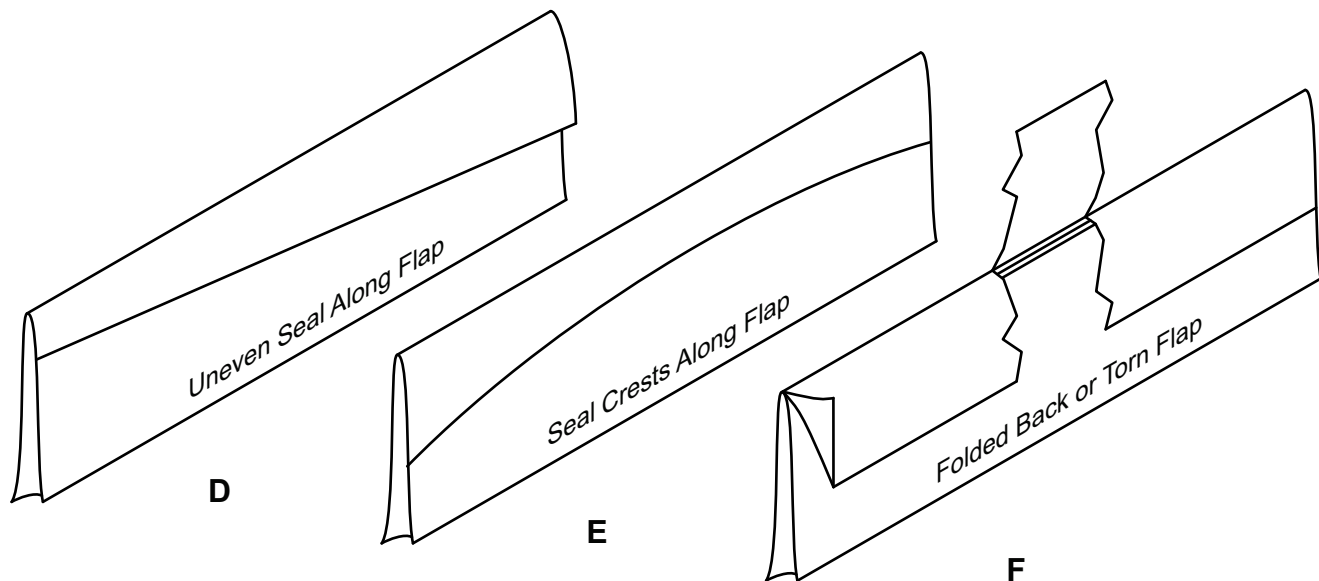

Figure 7-2: Bag Seal Comparison
3. Figure 7-2: (D) shows the flap unevenly sealed. Uneven seals may leak product from one of the gussets and not provide sufficient strength along the entire seal. There are a couple of conditions that may cause this effect:
4. **Figure 7-2:** (E) indicates excessive creasing at the leading and trailing edges of the bag flap. Although some creasing can be expected, too much will compromise the integrity of the seal. Here are some possible reasons for the excessive creasing:
7. In **Figure 7-2:** (F) the bag is being torn or is catching on components as it passes through the machine. Remove the swing channel shrouding and inspect a couple of bags passing through the system. Try to isolate the component where the bag is being stalled or jammed. Make adjustments to the component.